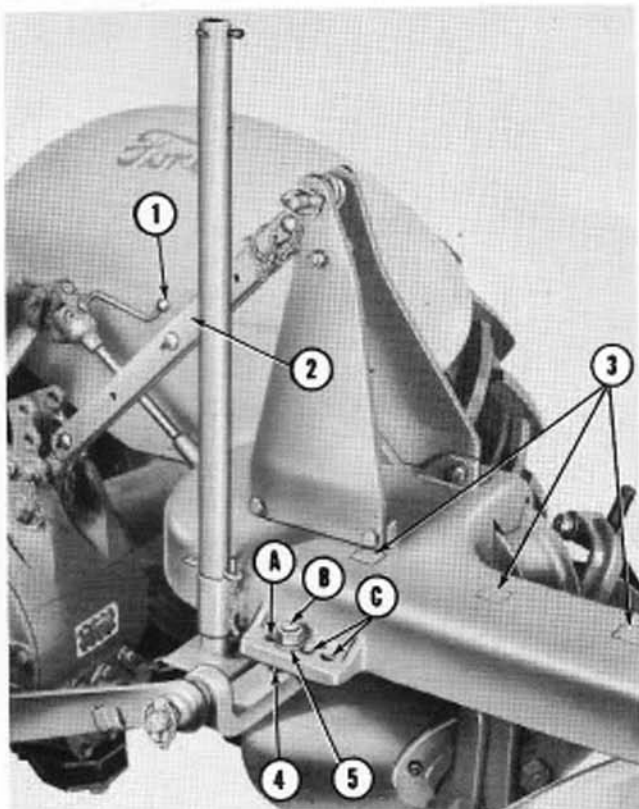

Figure 7
**Leveling the Plow:** The plow should be leveled after making the first cut in a new plowing operation to allow for the fact that the tractor and plow are tilted because the tractor right wheels travel in the furrow. This adjustment is made by turning the tractor leveling crank (1), Figure 7, until the plow is level when the right tractor wheels are in the furrow.
**Top Link:** Under normal, heavy soil conditions, the tractor top link (2), Figure 7, should be adjusted to its shortest position (25"). Under certain soil condi-
**Adjusting the Long Beam:** Under excessively trashy conditions, the long, rear beam may be moved rearward to increase the distance between the front and rear discs. To do this, remove the three bolts (3), Figure 7, which hold the beam to the main frame and move the beam out until the extra set of holes are properly aligned. Replace the bolts (3), lockwashers and nuts and tighten securely.
**Cross Shaft Adjustment:** The cross shaft can be adjusted laterally by changing the position of the bolts which hold it to the main frame. The width of cut on the front disc will be 9" to 10" when the right set of holes (5), Figure 7, are used, and approximately 12" when the left holes (4) are used.
angle adjustment is provided on the left side of the plow frame. Use the front hole (A), Figure 7, for a 9" cut, the second hole (B) for a 10" cut, and the third or fourth hole (C) for a 12" cut.